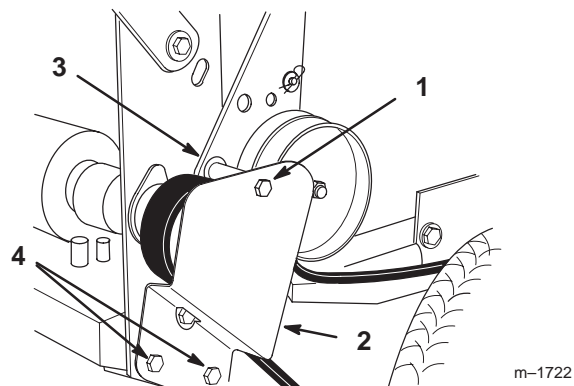

Figure 59
1. Remove top capscrew securing idler support and idler bracket to rear frame (Fig. 59).
2. Loosen bottom two mounting screws enough to allow belt to pass between drive pulley and idler support (Fig. 59).